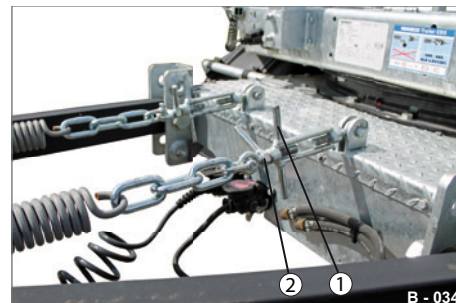

Fig. 50 Height adjustment - variety 2
- Loosen the two lock nuts (Fig. 50/2).
- Turn both clamping bolts in parallel (Fig. 50/1) in the necessary direction. The drawbar lifts or sinks.